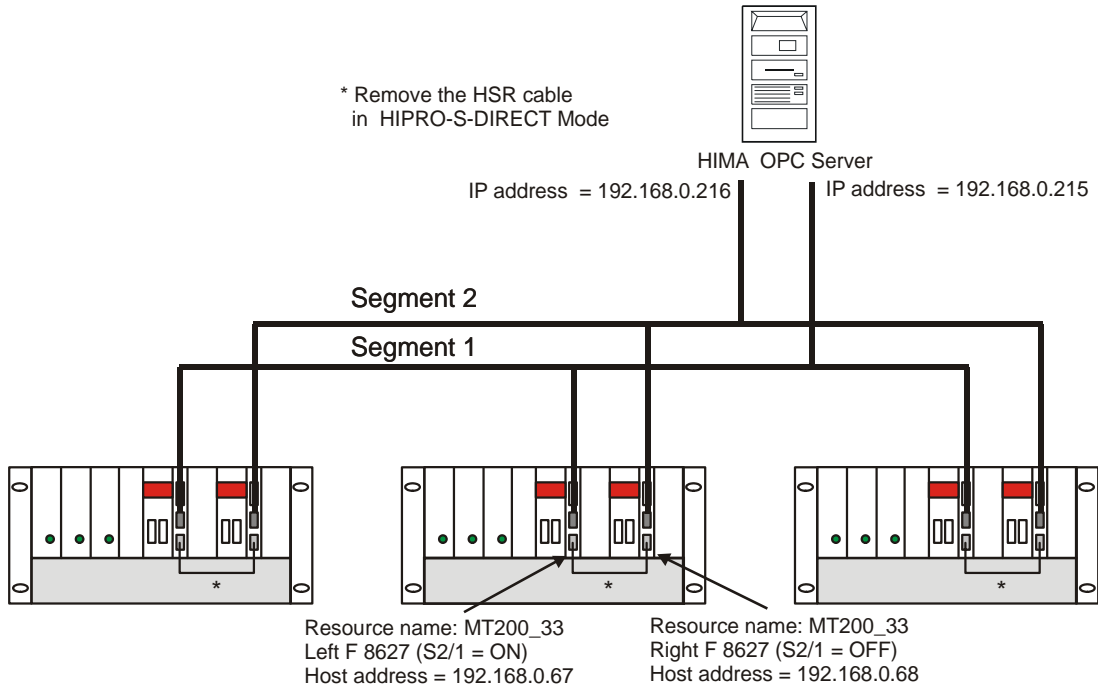

Fig. 2: Redundant connection via 2 segments
- The switch 2/1 sets the module number, which corresponds to the attached Ethernet segment (see Table 4 and Figure 2).
- With the switch 2/2 mono or redundant interconnecting of the communication module group is stopped (see Table 4 and Figure 2).